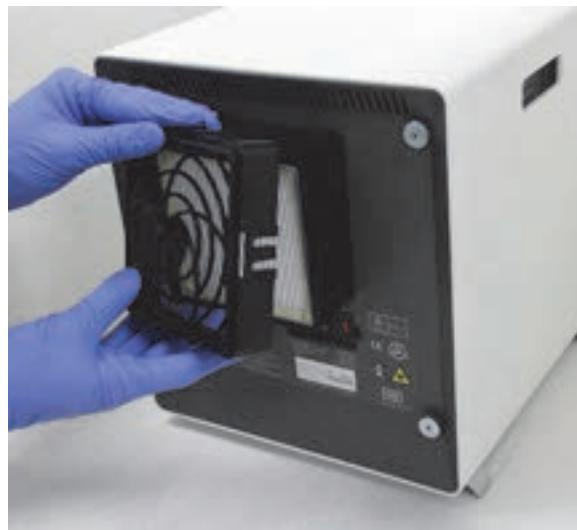

Figure 9-27. Removing the HE Filter Retainer
6. Remove the HE filter retainer by releasing the clips on sides and top and bottom. The filter retainer fits very tightly and may take effort to remove. See Figure 9-27.